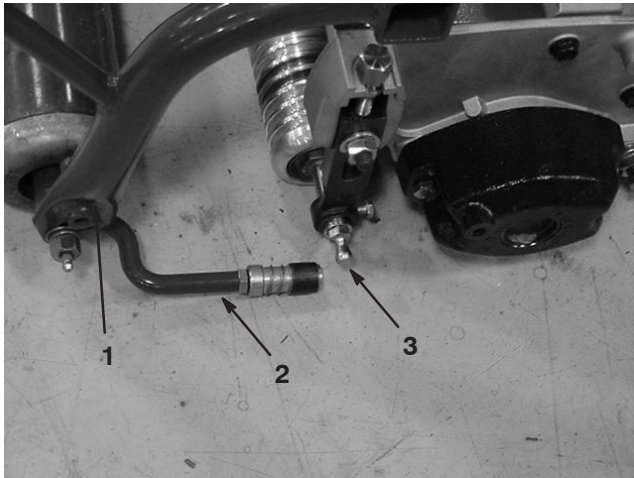

Figure 10
2. Mount a ball stud to each end of the front roller on the cutting units (Fig. 10).
4. Slide the sleeve back on the ball joint and rotate the pull arm down so the socket fits over the ball stud. Release the sleeve so it slides over the stud and locks the assemblies together (Fig. 10).